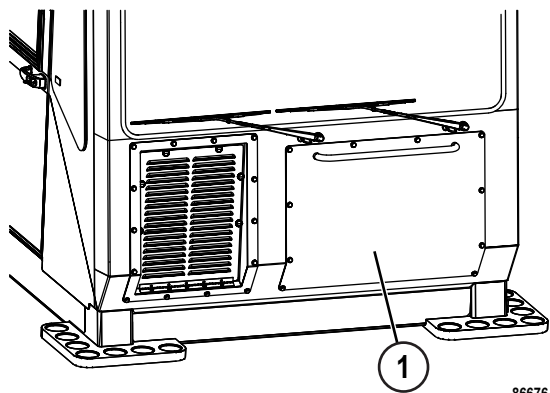
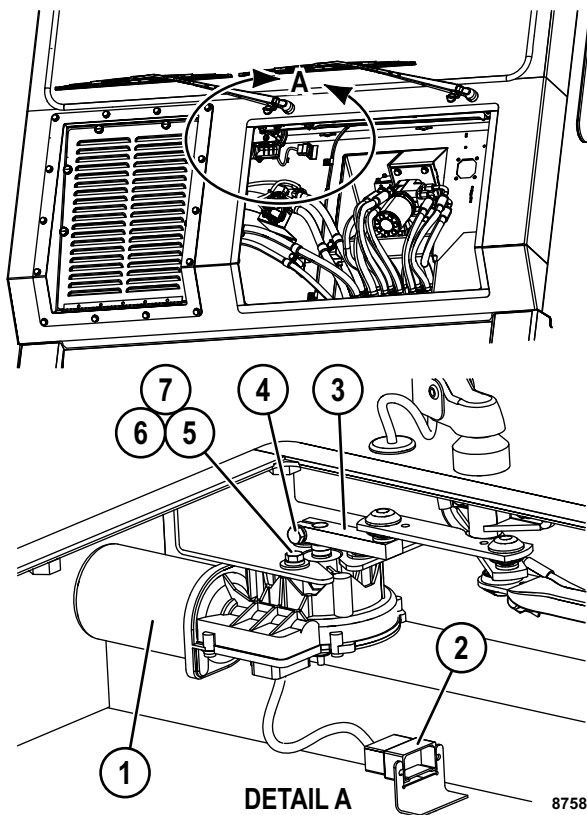

FIGURE 50-33. ACCESSING THE WIPER MOTOR
FIGURE 50-34. WIPER MOTOR REMOVAL & INSTALLATION
1. Remove front access cover (1, Figure 50-33) from the operator cab.
2. Disconnect the wiper motor harness (2, Figure 50-34).
3. While holding wiper linkage (3) stationary, loosen capscrew (4) and disconnect the wiper linkage from wiper motor (1).
4. Remove three capscrews (5), flat washers (6) and lock washers (7) that attach the wiper motor to the mounting plate. Remove the wiper motor assembly.
1. Place wiper motor (1, Figure 50-34) into position on the mounting plate.
2. Install three capscrews (5), flat washers (6) and lockwashers (7). Tighten the capscrews to **8-9 N·m (71-79 in. lb)**.
3. Slide wiper linkage (3) onto the motor output shaft. Hold the linkage stationary and tighten cap-screw (4) to **22-24 N·m (16-18 ft lb)**.
4. Reconnect wiper motor harness (2).
5. Verify that the wipers operate properly and park in the proper position (see Figure 50-33).